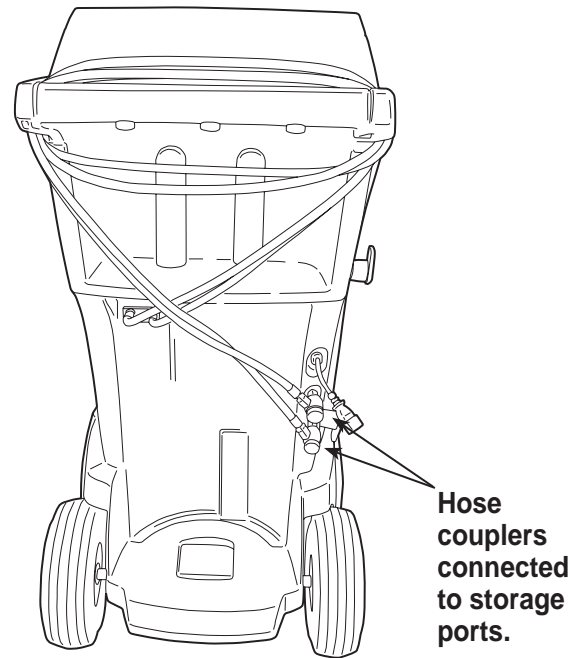

Figure 27
2. Loop the service hoses around the handle twice and attach them to the storage ports. See Figure 27.